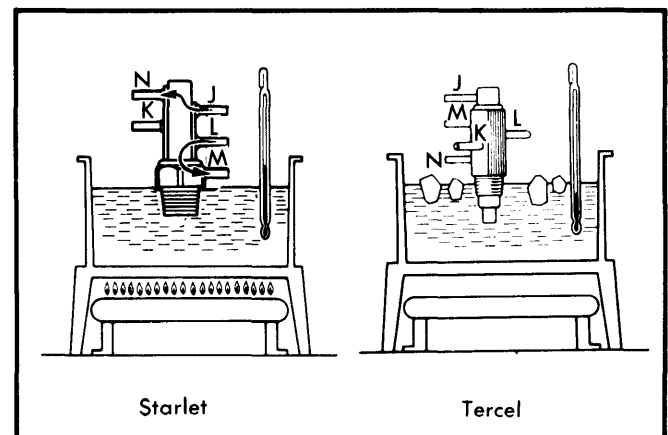

Fig. 6 Testing TVSV
2) With water temperature below 106°F (41°C), check that air flows from port J to port N and from port L to port M. See Fig. 6. Heat water to above 131°F (55°C). Check that air flows from port J to port K and from port L to port M.
Thermostatic Vacuum Switching Valve (Tercel) – 1) Drain coolant from radiator and remove TVSV. Immerse threaded end of valve in container of water with thermometer. See Fig. 6.